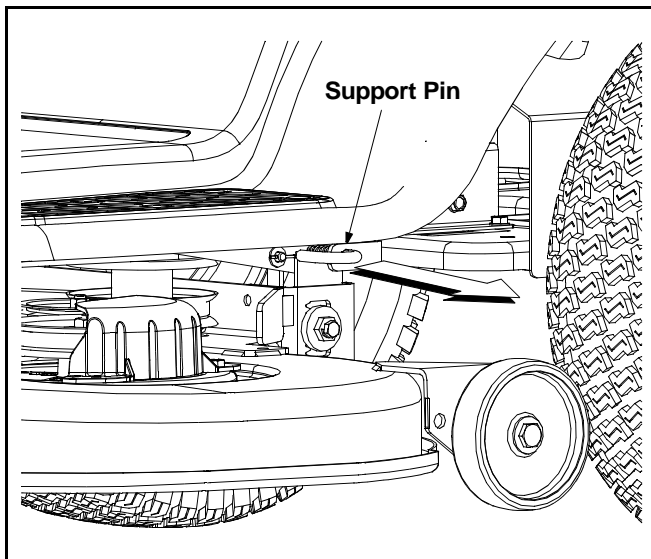

Figure 11
- Pull the deck support pin outward to release the deck from the deck lift arm. See Figure 11.